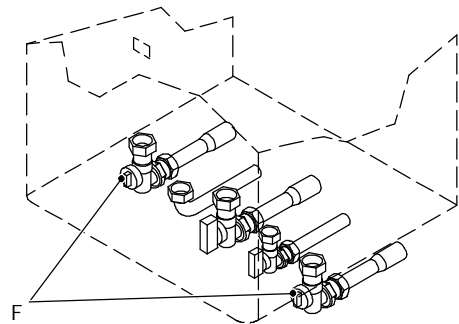

fig. 9
- 1 Close the c/h circuit isolation valves *F* (fig. 9).